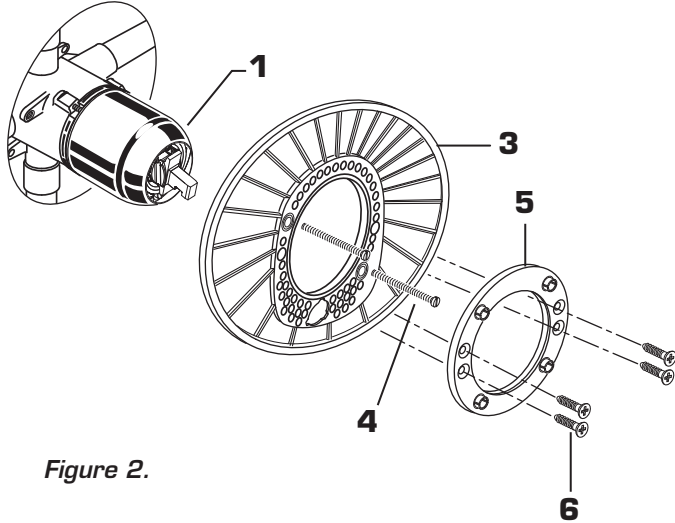

Figure 2.
- **Figure 2.** Push ESCUTCHEON HOLDER (3) onto CAP (1) and attach with LONG SCREWS (4). Mount ESCUTCHEON SUPPORT (5) to ESCUTCHEON HOLDER (3) with 4 SHORT SCREWS (6).